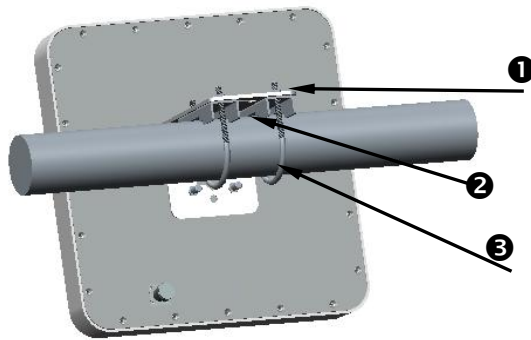

Figure 4. Horizontal mounting step 2
①	M6 screw, elastic washer and plain washer
②	Dog tooth
③	M6 U style screw bolt
Step 2: Please use M6 screw, elastic washer and plain washer and "Dog tooth" to fix it on the horizontal and vertical bracket, please see Figure 4